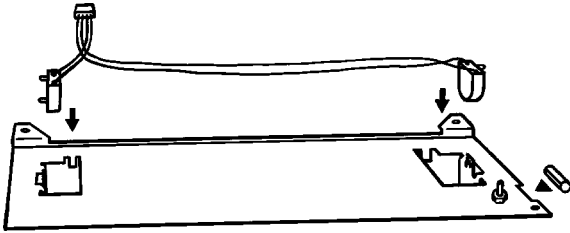

Figure 4.9.2c Fit insulator and lighting loom
5. Referring to figure 4.9.2c, fit the rubber insulator to the edge of the new cover plate supplied with the kit.